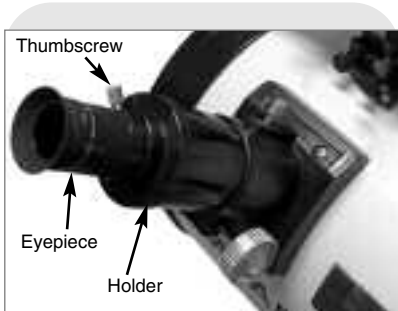

Fig. 10a: Insert eyepiece into holder and tighten thumbscrews.
- Insert the eyepiece: Schmidt-Newtonian and Newtonian models (Fig. 10a):** Lift to remove the dust cap from the eyepiece holder on the focuser assembly. Set the dust cap aside in a safe place and replace it when you have finished observing to protect the eyepiece assembly. Back off the eyepiece thumbscrews (1, Fig. 1a) and insert the supplied SP 26mm eyepiece (3, Fig. 1a) into the the eyepiece holder. Tighten the holder thumbscrews to a firm feel to secure the eyepiece.